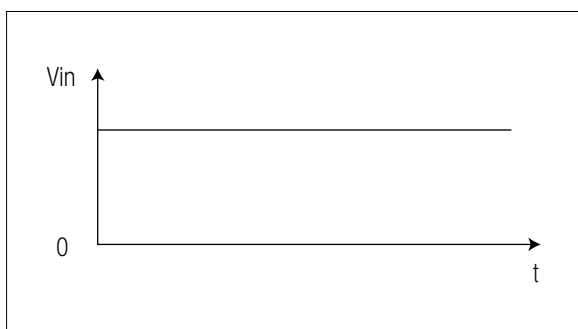

Fig. 2-7
- PO10 : Smooth the voltage converted to DC(Refer to Vin of Fig. 2-7)